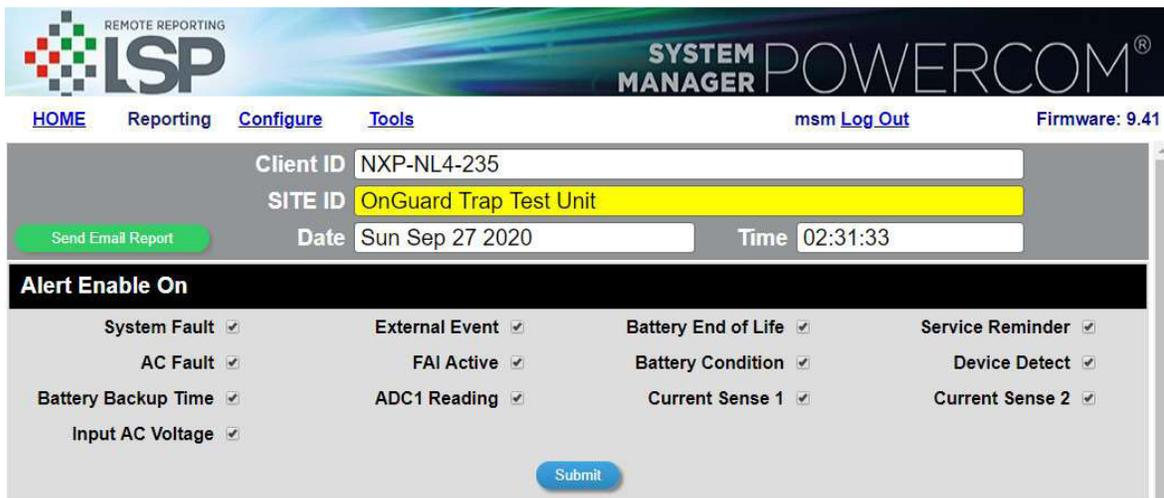

Figure 4
2. Navigate to the Reporting page and locate the Alert Enable On section. (Figure 4)